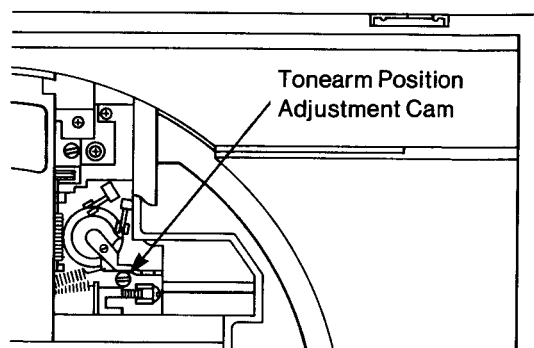

Fig. 3
3. Push the $\triangleleft$ button on the control panel and move the tonearm to the place where the tonearm position adjustment cam can be observed. (Fig. 3)
4. Adjust the tonearm position adjustment cam, so that the tonearm faces perpendicular to the back wall of the cabinet. (Fig. 3)